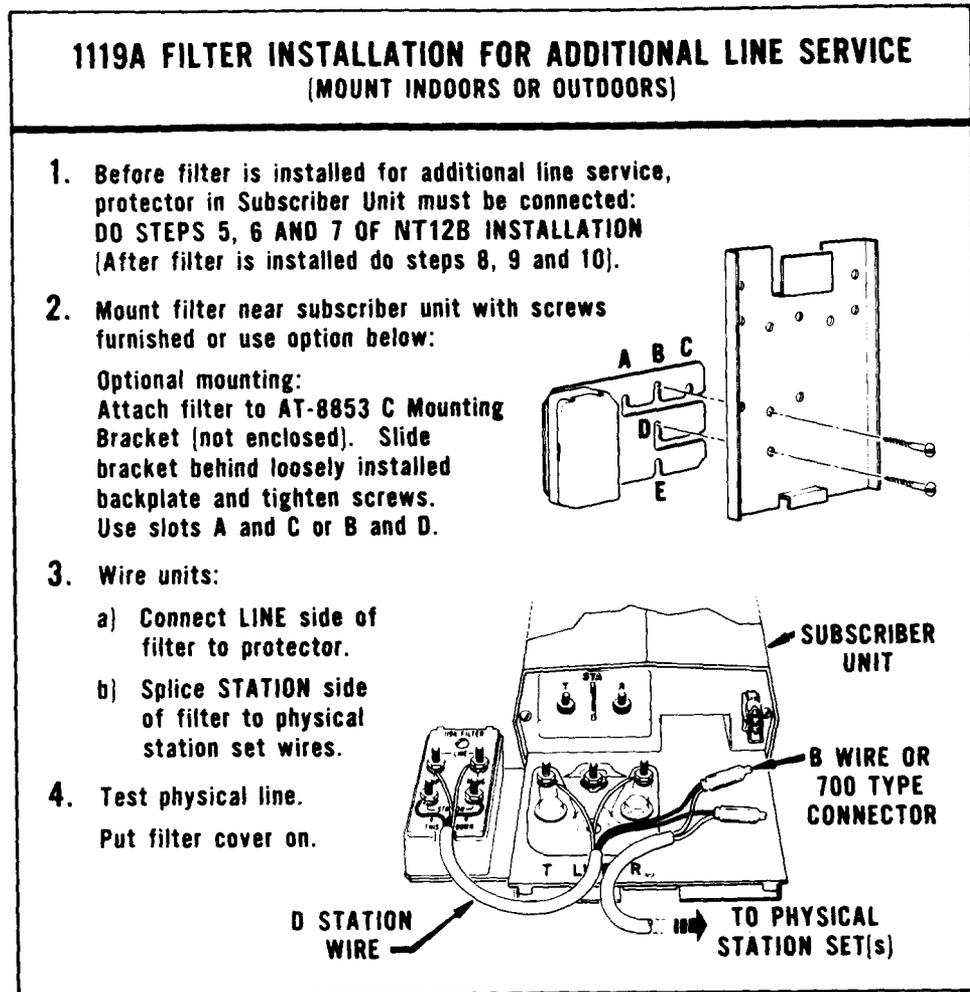
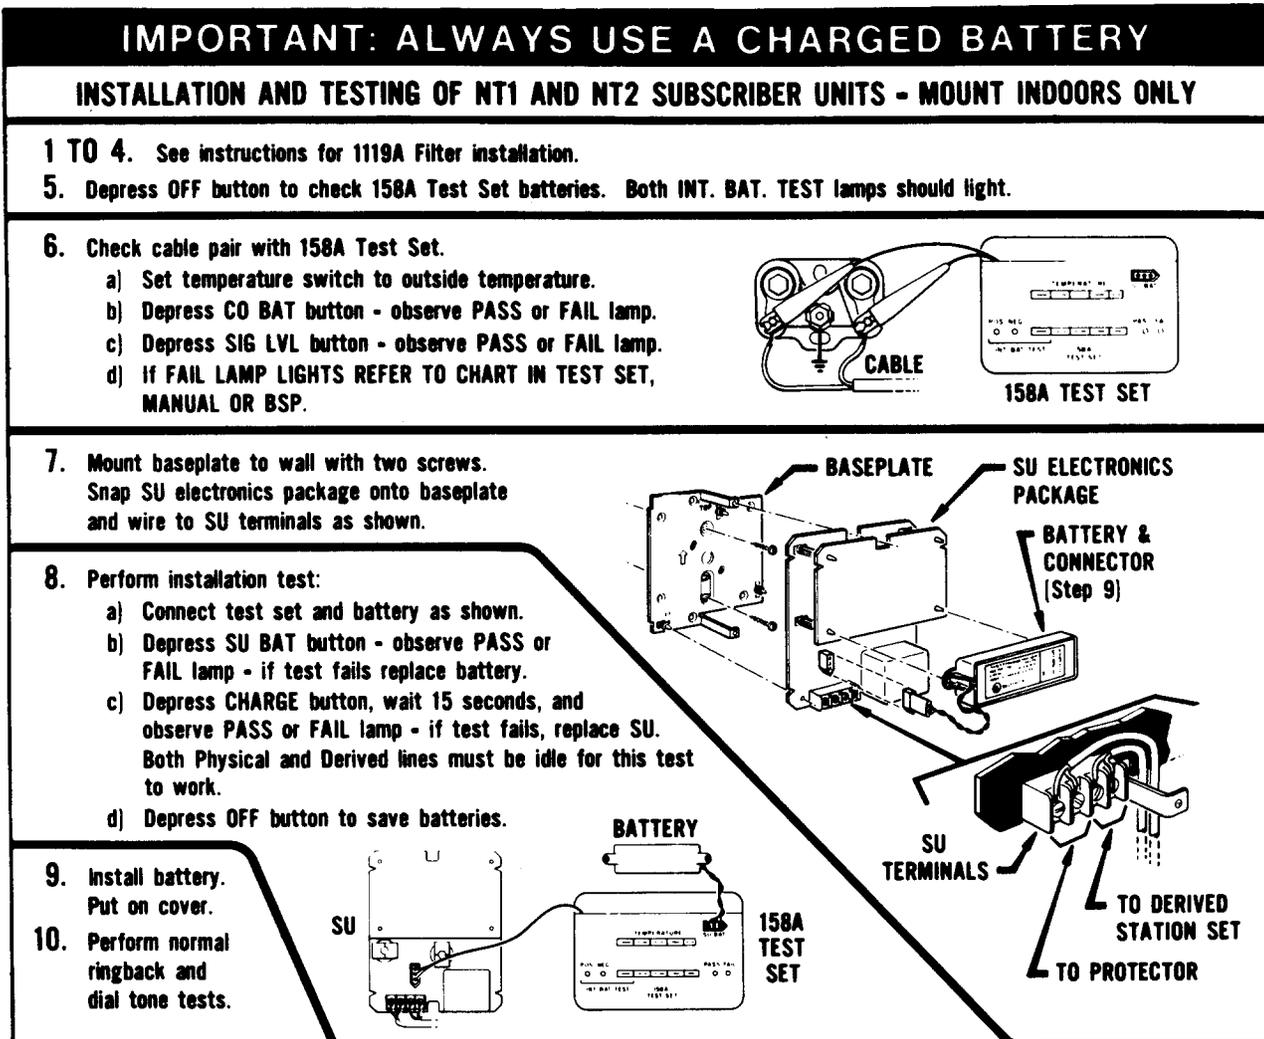

Fig. 9—Label Showing Installation of Filter for ADL Service With NT12B Subscriber Unit
Fig. 10—Label Showing Installation Instructions for NT1 or NT2 Subscriber Unit
D. With NT12-Type (SLC-1C), Fig. 9
(4) Mount the filter beside the subscriber unit either with the screws furnished or with the AT-8853C mounting bracket (Fig. 9). Bracket must be ordered separately.
(5) Connect the LINE side of the filter to the protector of the NT12-type subscriber unit and the physical station wiring to the STA terminals. Physical station wiring may be spliced as shown by Fig. 9 or connected directly to the STA terminals. Spare conductors in physical wiring may remain unconnected or if used (for dial light, etc.), they should be connected so as to by-pass the 1119A filter.
(6) Test physical line according to normal procedures.
E. NT1 (SLC-1A) or NT2 (SLC-1B) Subscriber Units, Fig. 10
(1) Plug the subscriber unit battery into the SU BAT jack on the 158A test set and connect the battery cable of the test set to the battery jack on the subscriber unit (Fig. 10).
Note: If either the CO BAT or SIG LVL test fails, refer to Fig. 10 for possible causes.